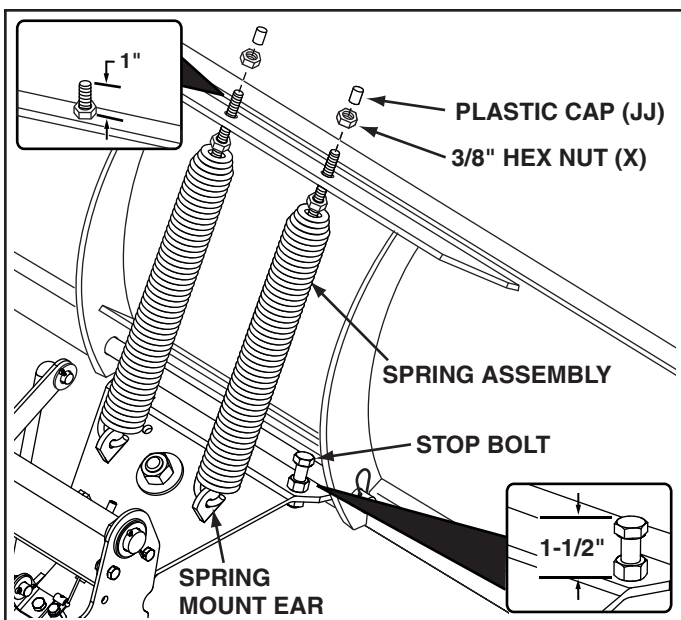

FIGURE 21
STEP 20: (SEE FIGURE 21)
- Hook the spring assemblies into the spring mount ears on the pivot plate. Insert the end of each bolt up through the holes in the top of the blade and assemble a 3/8" hex nut (X) onto each trip spring. Tighten both nuts on each bolt so that approximately 1" of the bolt extends through the top of the blade.
- Assemble the plastic caps (JJ) onto the bolts.